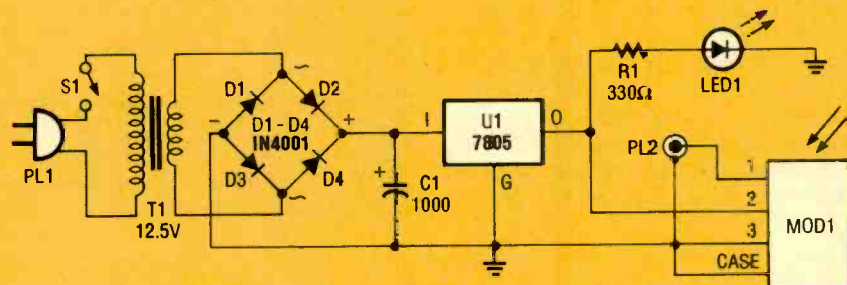

Fig. 2. The Remote Analyzer is so simple because all of the signal processing is performed by the infrared detector/demodulator module, MOD1.
**Circuit Theory.** A schematic diagram for the Remote Analyzer is shown in Fig. 2. The circuit is powered from a simple 5-volt supply, consisting of PL1, S1, T1, a bridge rectifier (comprised of D1 through D4), capacitor